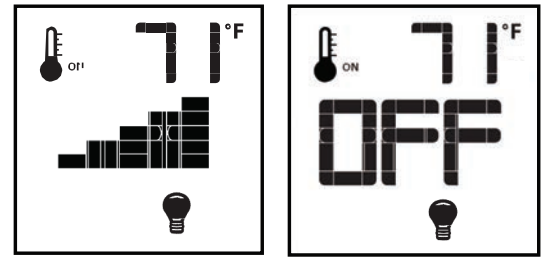

Figure 65: Dimmer light control.
The auxiliary function controls the AUX power outlet by the dimmable light control. To activate this function use the Mode Key (Figure 53) to index to the light bulb icon (Figure 65). The intensity of the output can be adjusted through six (6) levels. Use the Up/Down Arrow Keys on the remote control handset to adjust the output level. A single “beep” will confirm reception of the command.